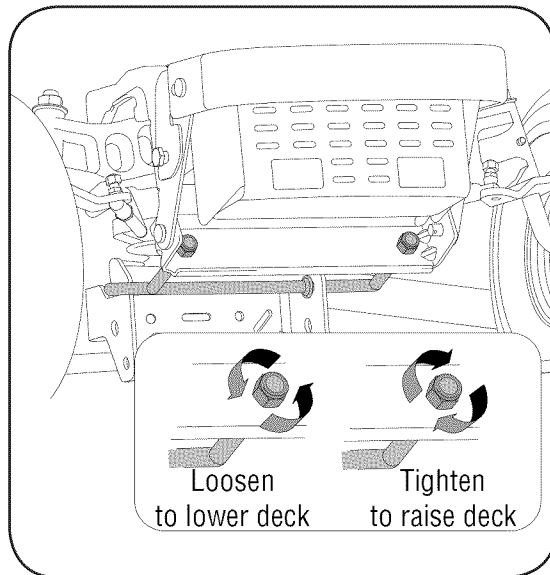

Figure 14
3. From the front of the tractor, loosen the hex lock nut on each end of the deck hanger rod, and turn away from the inner hex nuts. See Figure 14.